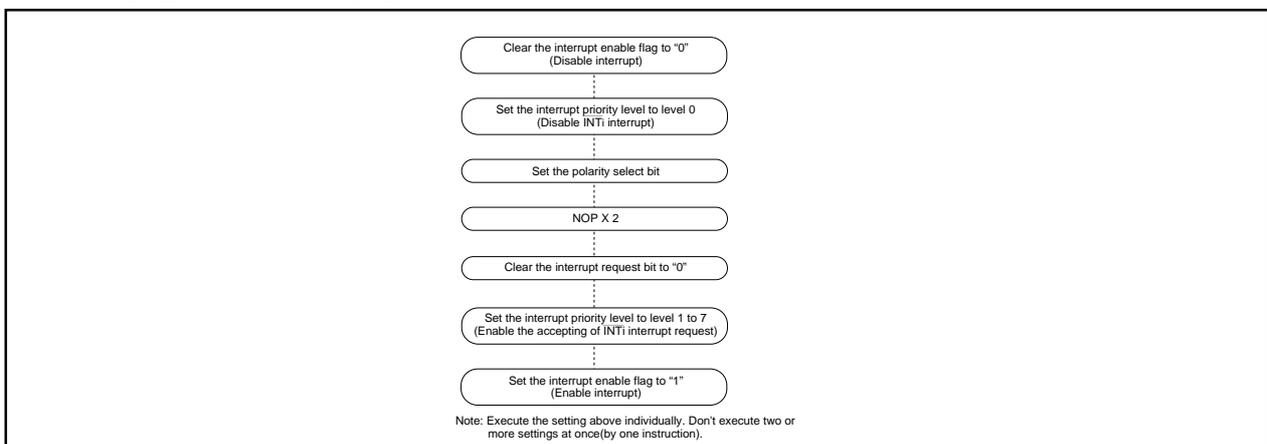

Figure 1.11.13. Switching condition of $\overline{\text{INT}}$ interrupt request
(2) Setting the stack pointer
(3) The $\overline{\text{NMI}}$ interrupt
(4) External interrupt
- When the polarity of the $\overline{\text{INT}}_0$ to $\overline{\text{INT}}_2$ pins is changed, the interrupt request bit is sometimes set to "1". After changing the polarity, set the interrupt request bit to "0". Figure 1.11.13 shows the procedure for changing the $\overline{\text{INT}}$ interrupt generate factor.